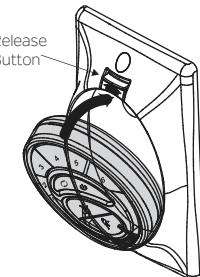

Fig. 29
Step 1. Insert the transmitter into the wall plate by inserting the bottom of the transmitter first and then pressing the top of the transmitter into the pocket. The transmitter will fully function from this location or you can remove the transmitter and use it as a hand held device. (**Fig.29**)